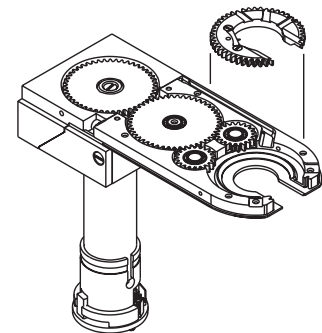

Figure 49 *Removing the Rotor*
8. Remove the rotor. See Figure 49.